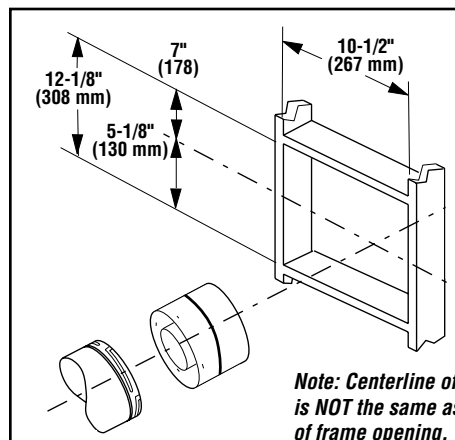

Figure 12: Exterior Wall Opening Framing
1. Locate the center of the vent outlet on the exterior wall according to the dimensions shown in **Figure 12**.